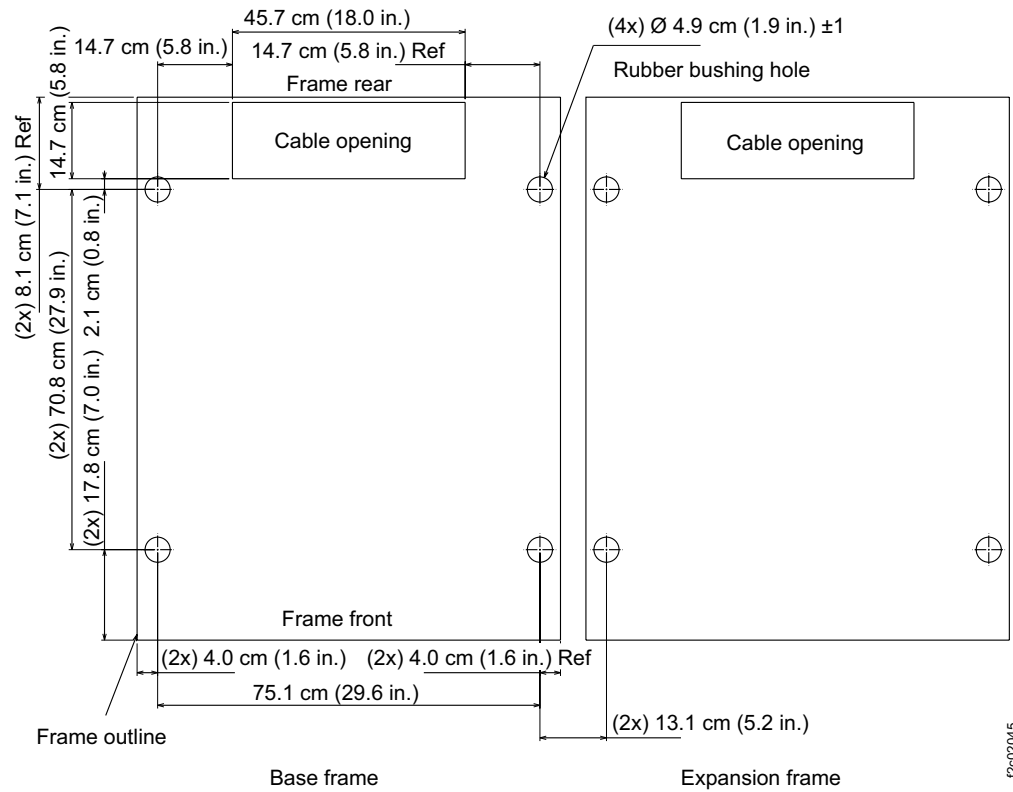

Figure 20. Locations for the cable cutouts, rubber bushing holes on raised floors, and eyebolt on concrete floors
Use Figure 20 as a guide for the location and dimensions of these openings. The pattern repeats for up to four frames. Dimensions are in millimeters (inches).
- See Figure 20 on page 155 to determine the placement of the eyebolts. The eyebolts must be installed so that they are directly below the holes that you cut in the raised floor for the rubber bushings.